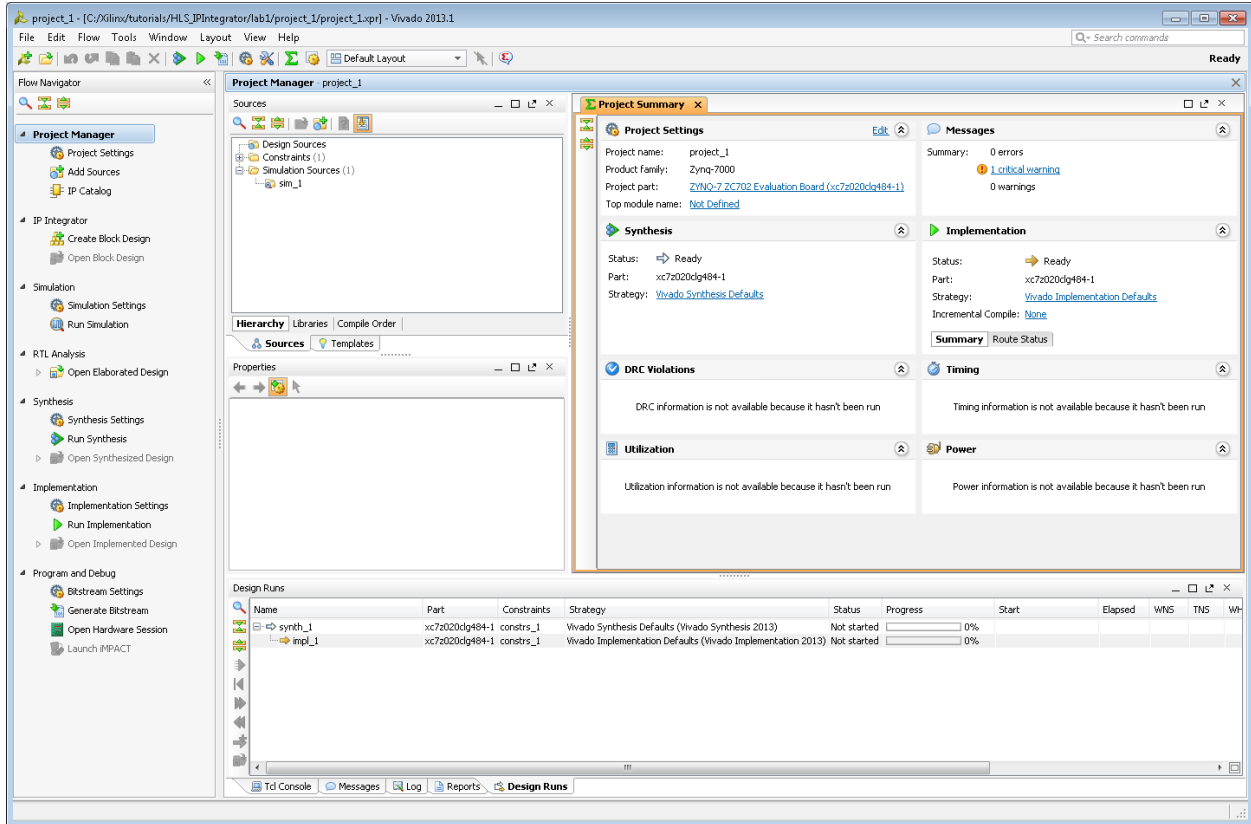

Figure 188: Vivado Project
7. On the **New Project Summary Page**, click **Finish** to complete the new project setup. The Vivado workspace populates and appears as shown in **Figure 188**.